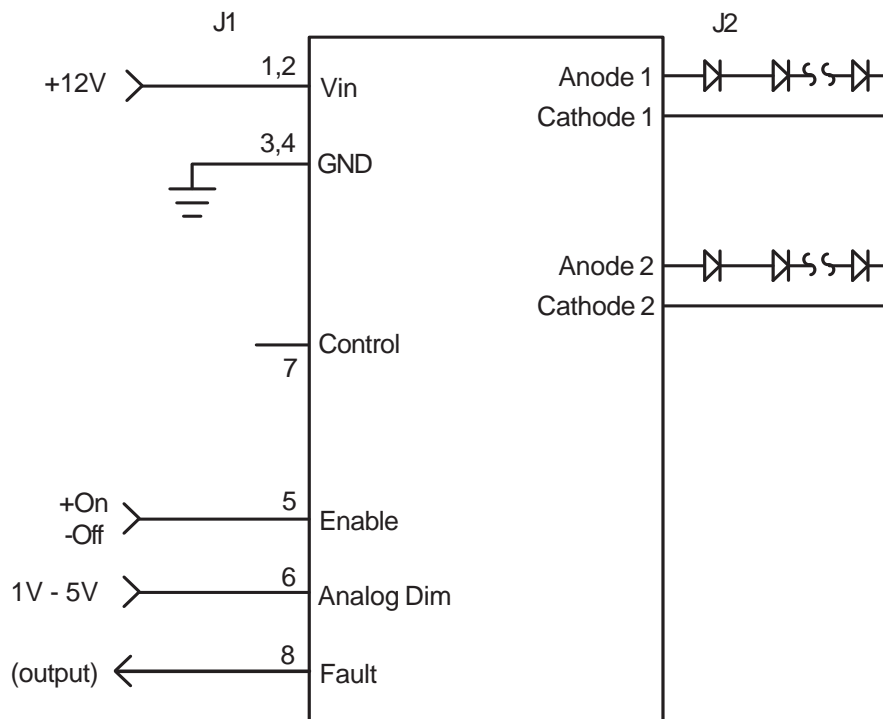

Figure 2
- DIMMING: Dimming is accomplished by applying an analog voltage to the Analog Dim Pin (J1-6) as shown in Figure 2. The display brightness will decrease as VAn is increased from 1V to 5V.